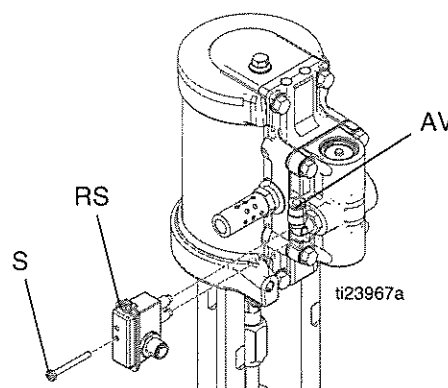

FIG. 5: Reed Switch Assembly and Air Line Removal
3. **For motors with DataTrak:** See FIG. 5. Remove screw (S) to disconnect the reed switch (RS) from the air valve (AV).
1. **For motors with DataTrak:** Remove the screw to disconnect the reed switch from the air valve. See FIG. 5, page 13.